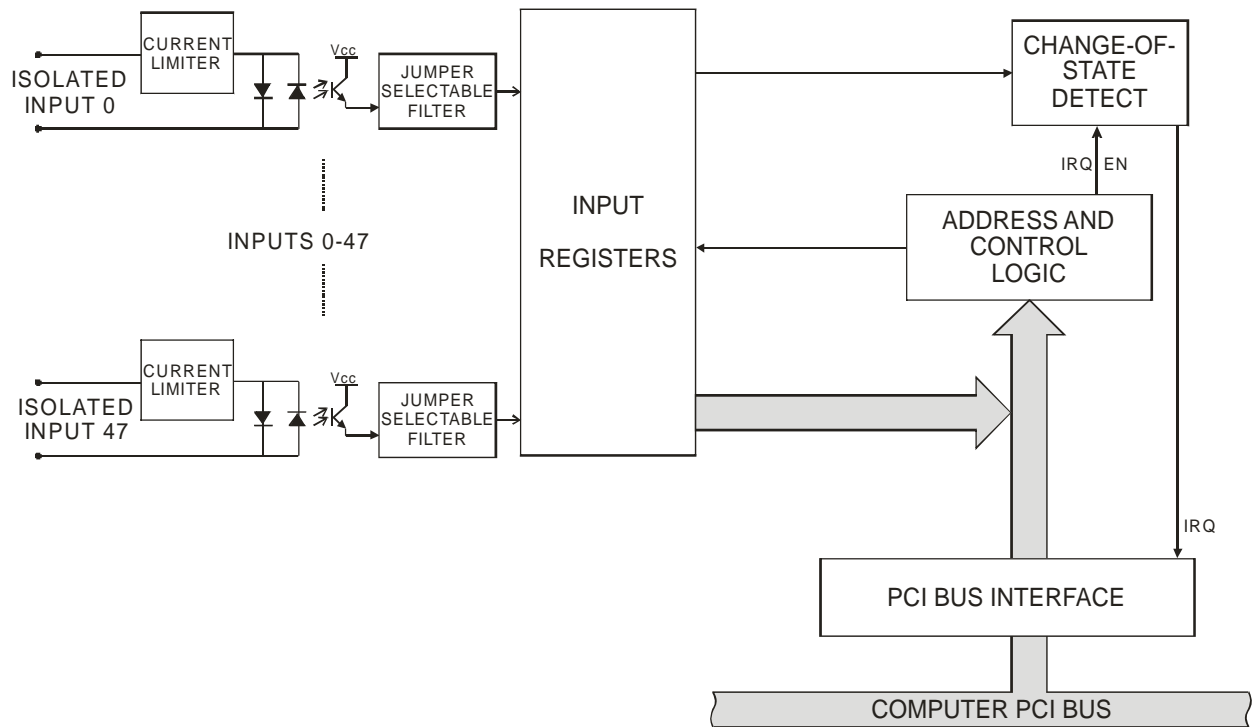

Figure 1-1: Block Diagram
- Figure 1-1: Block Diagram** 8
Each input circuit contains a switchable filter that has a 4.7 millisecond time constant (without filtering, the response is less than 30 microseconds). The filter must be selected for AC inputs in order to eliminate the on/off response to AC. The filter is also valuable for use with slow DC input signals in a noisy environment. The filter may be switched out for DC inputs in order to obtain faster response. Filters are individually selected by jumpers. See Figures 1-1 and 3-1 for jumper arrangements.